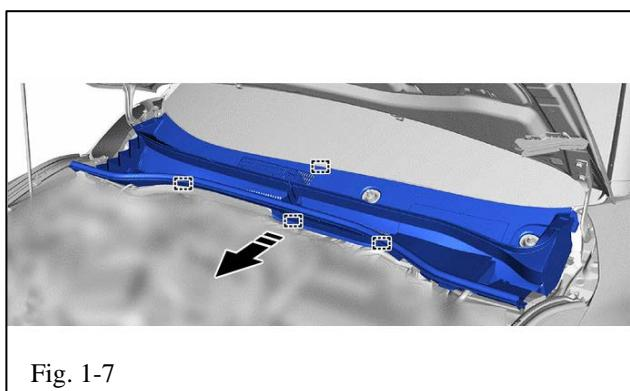

Fig. 1-7
(5) Disengage the guides to remove the cowl top ventilator louver sub-assembly (Fig. 1-7).